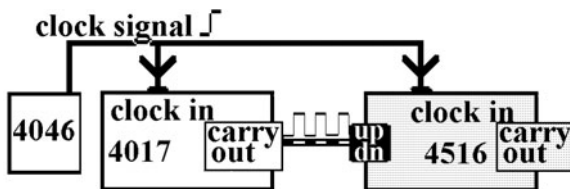

Figure L45-10
- Remember the carryouts of the 4017? It is high for the first five numbers, and then goes low for the second five numbers. Try the setup shown in Figure L45-10. Connect the 4017 carryout to the up/down counter of the 4516. Predict what's going to happen. Were you right?